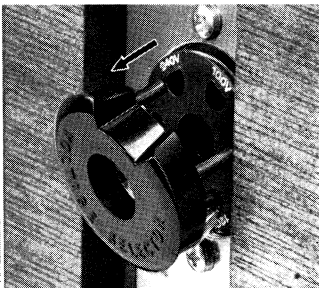

Fig. 5
- (2) The VOLTAGE SELECTOR ③⑦ as shown in Figs. 5, 6 and 7 is a rotatable plug-in type offering six selections, 100/110/120/200/220/240.
- (3) Change the fuse according to voltage.